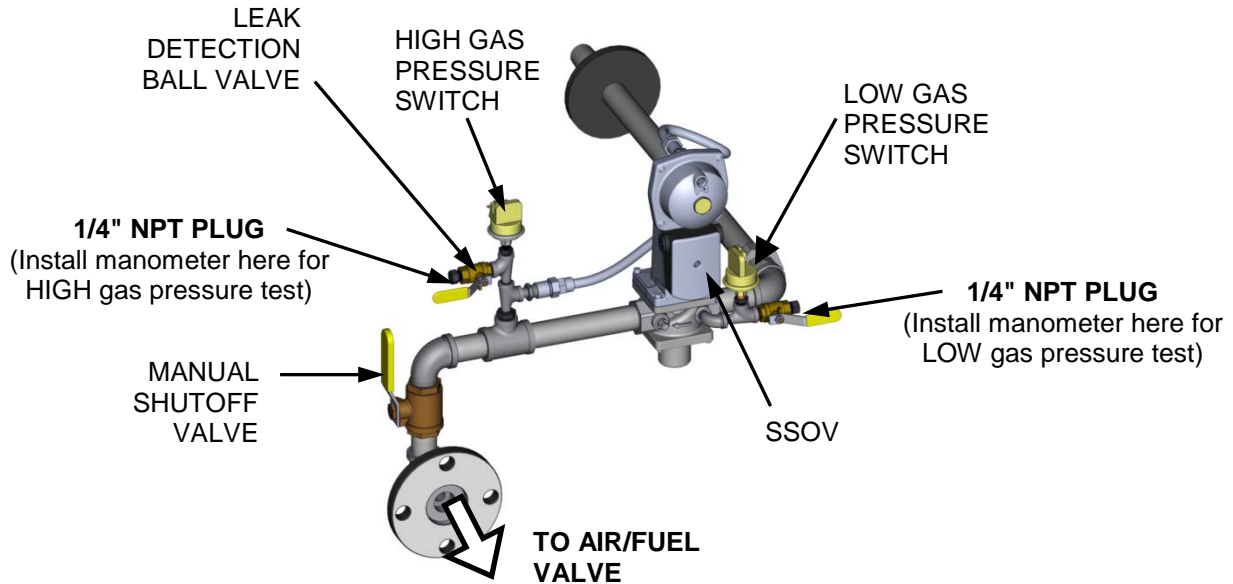

Figure 5-1. Low & High Gas Pressure Testing (INN1060 Gas Train)
Refer to Figure 5-1 and ensure that the leak detection ball valve located at the high gas pressure switch is closed.
1. Remove the 1/8" plug from the ball valve at the low gas pressure switch shown in the lower portion of Figure 5-1.
To simulate a high gas pressure fault, refer to Figure 5-1 and proceed as follows:
1. Remove the 1/8" plug from the leak detection ball valve shown in Figure 5-1.